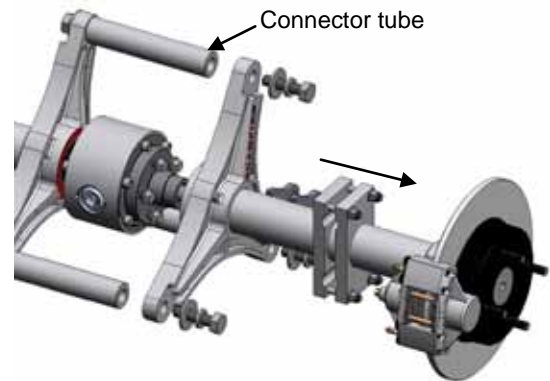

Figure 12
- Remove the three 3/4" bolts securing the left half of the rear end assembly to the connector tubes. Figure 12
- Separate the two halves of the rear end assembly, leaving the differential on the right half. Figure 12